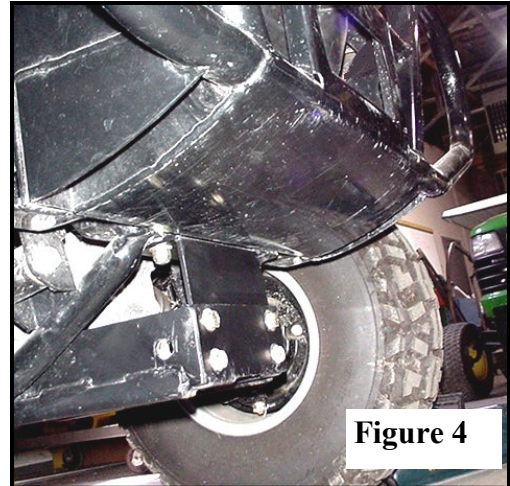

Figure 4
**B) (FIG. 4)** Install the A frame bracket mount to the front of the A frame bracket and bottom of the vehicle frame with six  $\frac{3}{8}$ " x 1" bolts as shown. Take the vehicle off of the jack stands and lower to the ground.